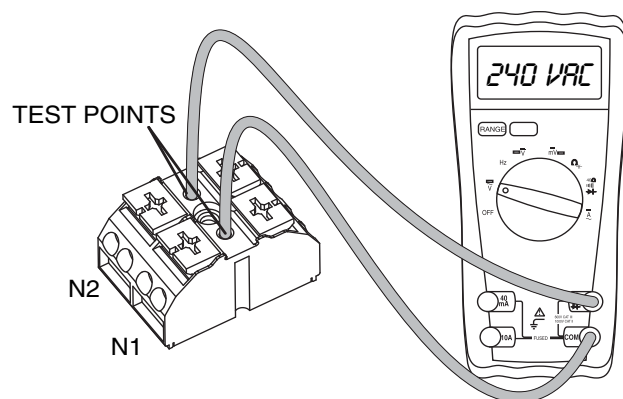

Figure 42. Terminal Block Test Points
3. See Figure 42. Connect one test lead to Wire N1 at the terminal block in the generator control panel. Connect the other test lead to Wire N2. Utility line-to-line voltage should be measured.